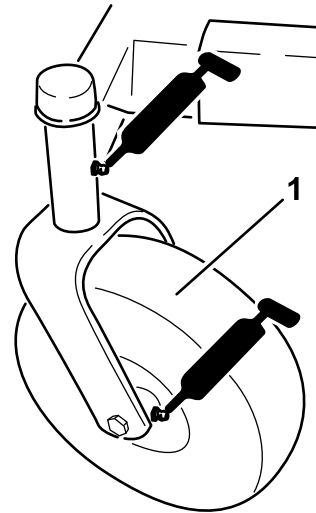
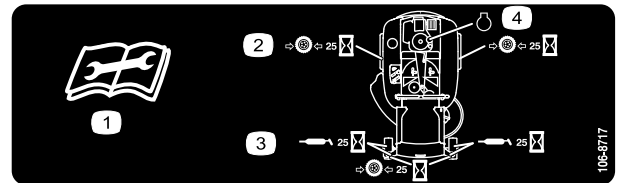

Figure 22
Figure 23
3. Clean the grease fittings (Figure 22 and Figure 23) with a rag. Make sure to scrape any paint off of the front of the fitting(s).